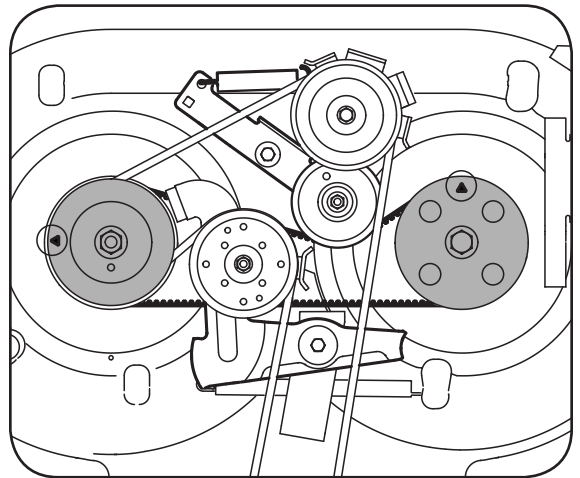

Figure 5-7
2. The top of each spindle pulley is marked with an arrow. See Figure 5-7. The arrows should be perpendicular (at a 90° angle) to each other.